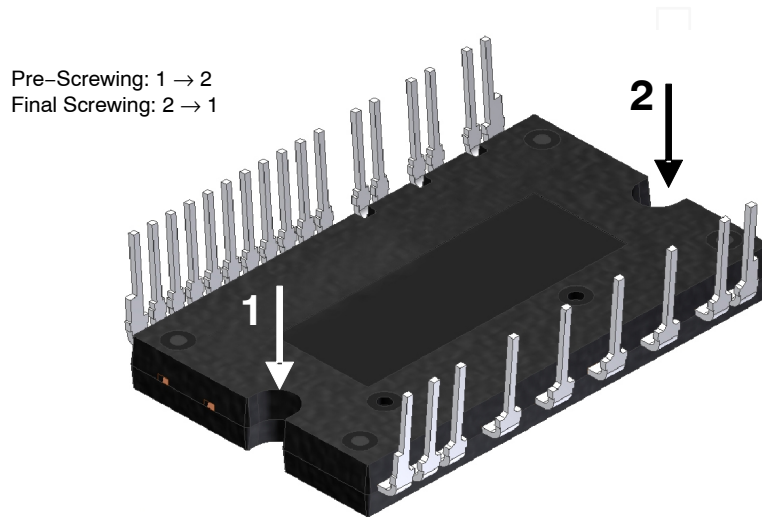

Figure 9. Mounting Screws Torque Order
13. Avoid one-sided tightening stress. Figure 9 shows the recommended torque order for mounting screws. Uneven mounting can cause the ceramic substrate of package to be damaged. The pre-screwing torque is set to 20 ~ 30% of maximum torque rating.